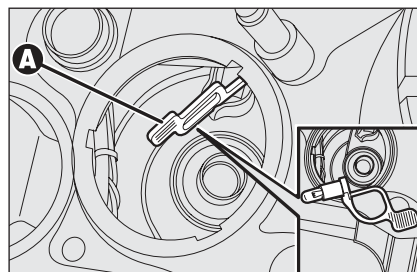

fig. 27
- ☐ press tab **A-fig. 27**, remove the bulb and replace it;